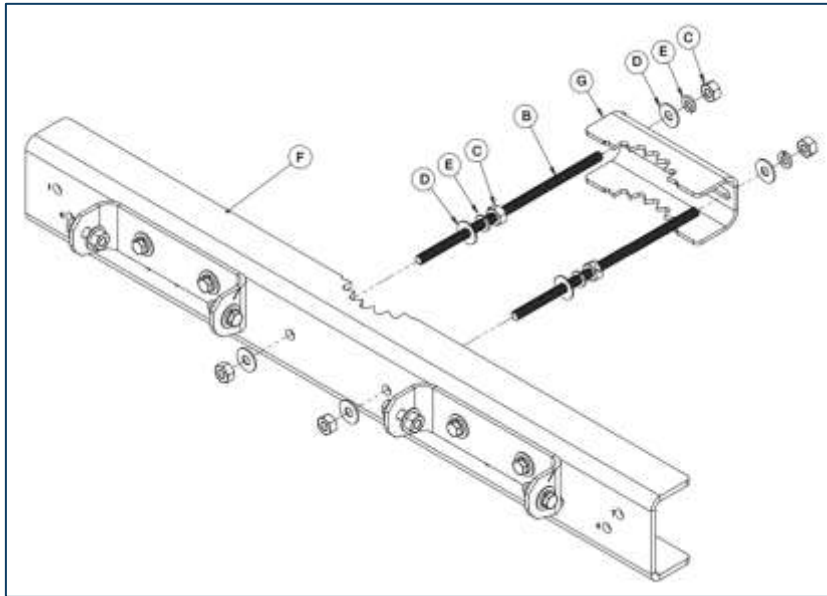

Figure 3: Connecting the bracket and the back grip
1. Connect dual mount bracket F and back grip G, using threaded rods B, and the 3/8" hardware provided: C, D, and E. See Figure 3.